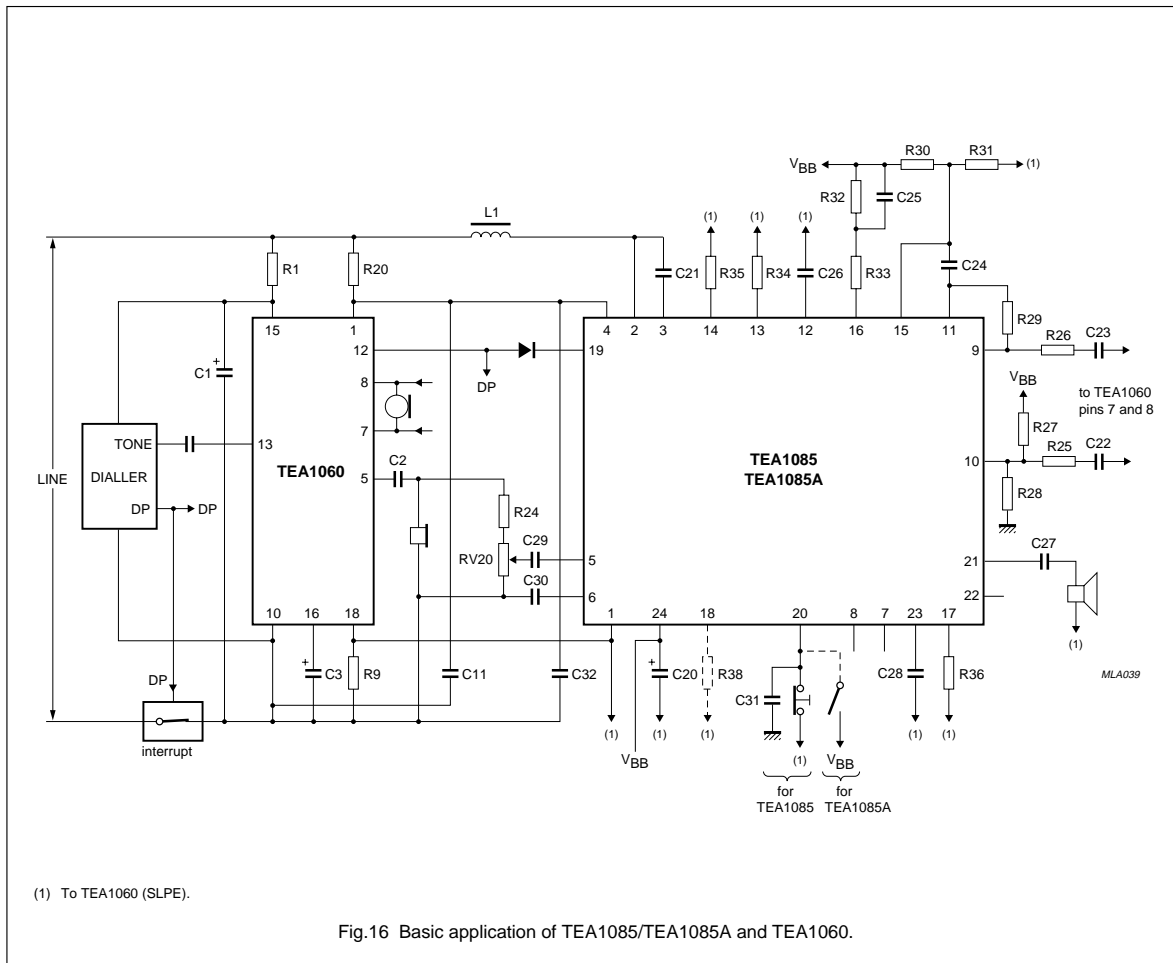

Fig.16 Basic application of TEA1085/TEA1085A and TEA1060.
The basic application circuit of the TEA1085/TEA1085A is illustrated in Fig.16. Only the most important components of the TEA1060 part are shown, other components and their values are given in the TEA1060 Data sheet.
**Table 3 Component values in application circuit Fig.16**